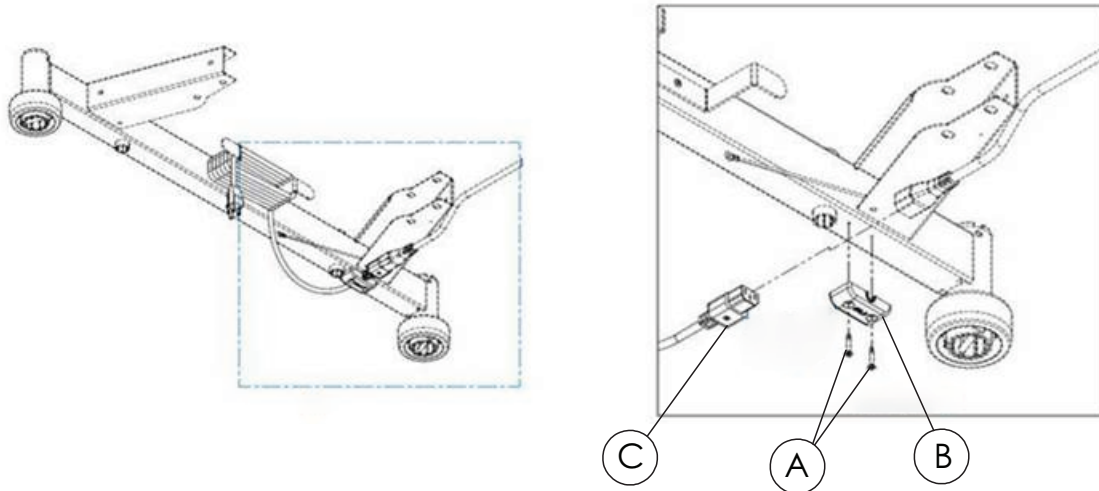

Figure 15 – Power cord
4. Remove the two screws (A) that secure the power cord connection cover (B) to the litter frame (Figure 15).
5. Remove and discard the external power cord (C) from the internal power cord (Figure 15).